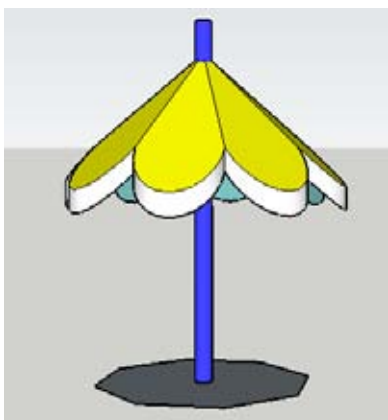

Figure 5-87
15. Finally, to make the pole, create a circle at the center point of the original octagon and pull it up (Figure 5-87).